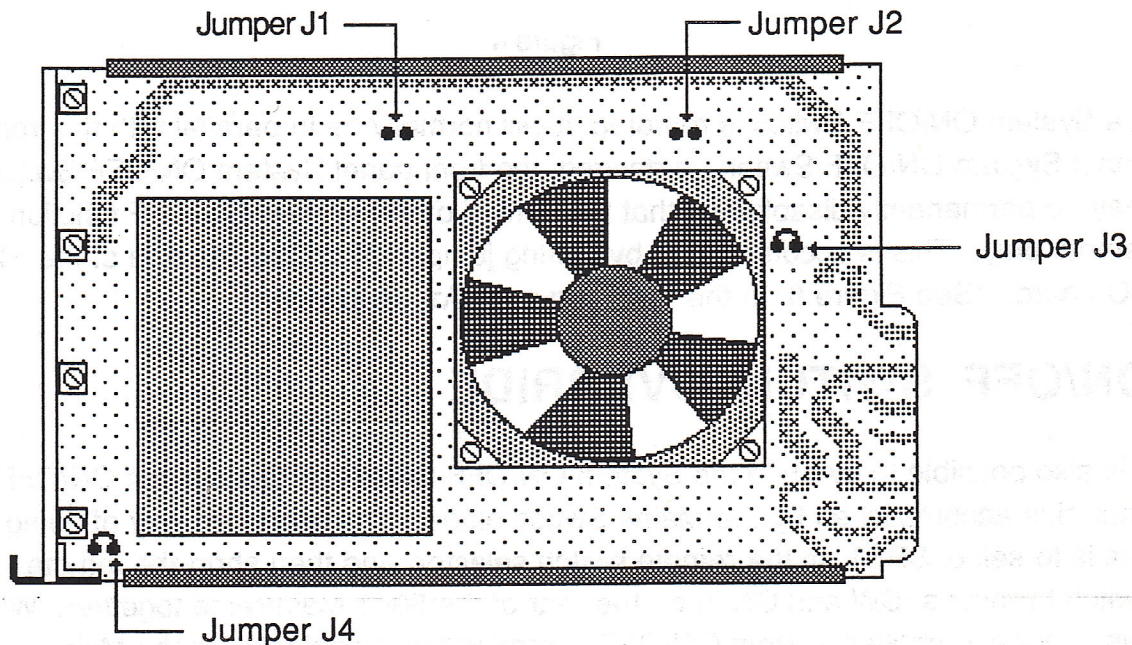

Figure 6
If a System ON/OFF Switch is removed, it will normally be in parallel with the front panel System ON/OFF Switch. If desired, the front panel System ON/OFF Switch may be permanently disabled so that the control of the system ON/OFF function is remote only. This is accomplished by cutting jumper J4 on the PC side of the 5101 PC board. (See Figure 6 on the following page for J4 location).
There is a second way of accomplishing this same thing by installing the two jumpers labeled J1 and J2 on the 5101. (See Figure 6 below). Jumper J1 permanently turns on low voltage AC (30 and 5 VAC), and jumper J2 shorts the triac so it is permanently on. Although this is not the preferred method because of the soldering required, the effect is exactly the same as the first method described, that is, complete system ON/OFF control will be transferred to the Mains Switch.
*The fan has two idle speeds. As shipped from the factory, the fan is on "high idle." This idle speed should always be used when 5 or more amplifiers are in a single Mainframe. If in doubt, use high idle. The high idle speed is, however, noisier than might be desired in applications where the surrounding environment is quiet (i.e. Control Rooms, consumer applications, etc.), and in such cases, assuming that the number of amplifiers in a single Mainframe is less than 5, it is possible to set the 5101 for "low speed idle". This is done by clipping jumper J3 (See Figure 6 on the preceding page). Remember that "high idle" fan is not the same as "high speed" fan. Whether the idle speed of the fan is set for high or low, if more cooling is needed by an amplifier, the fan will be triggered into high speed operation, and return to its selected idle speed when the amplifier has cooled.*